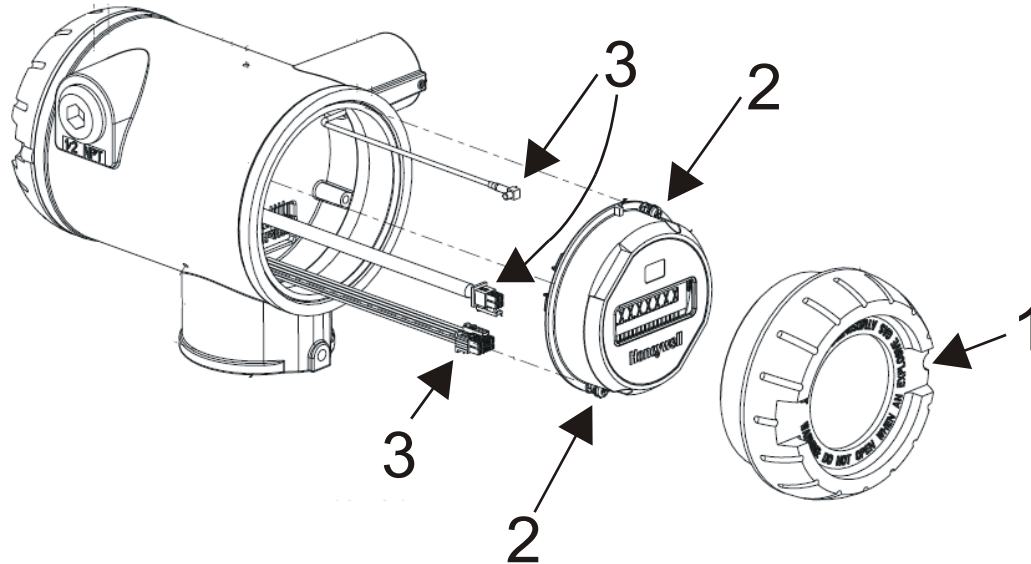

Figure 10 Sensor module removal and replacement
2	Loosen the M3 locking set screw on the display end-cap. See item 1 in Figure 10. Unscrew and remove the end cap.
3	Loosen the two screws on the sensor module. See items 2 in Figure 10.
4	Disconnect each connector on the sensor module. See items 3 in Figure 10.